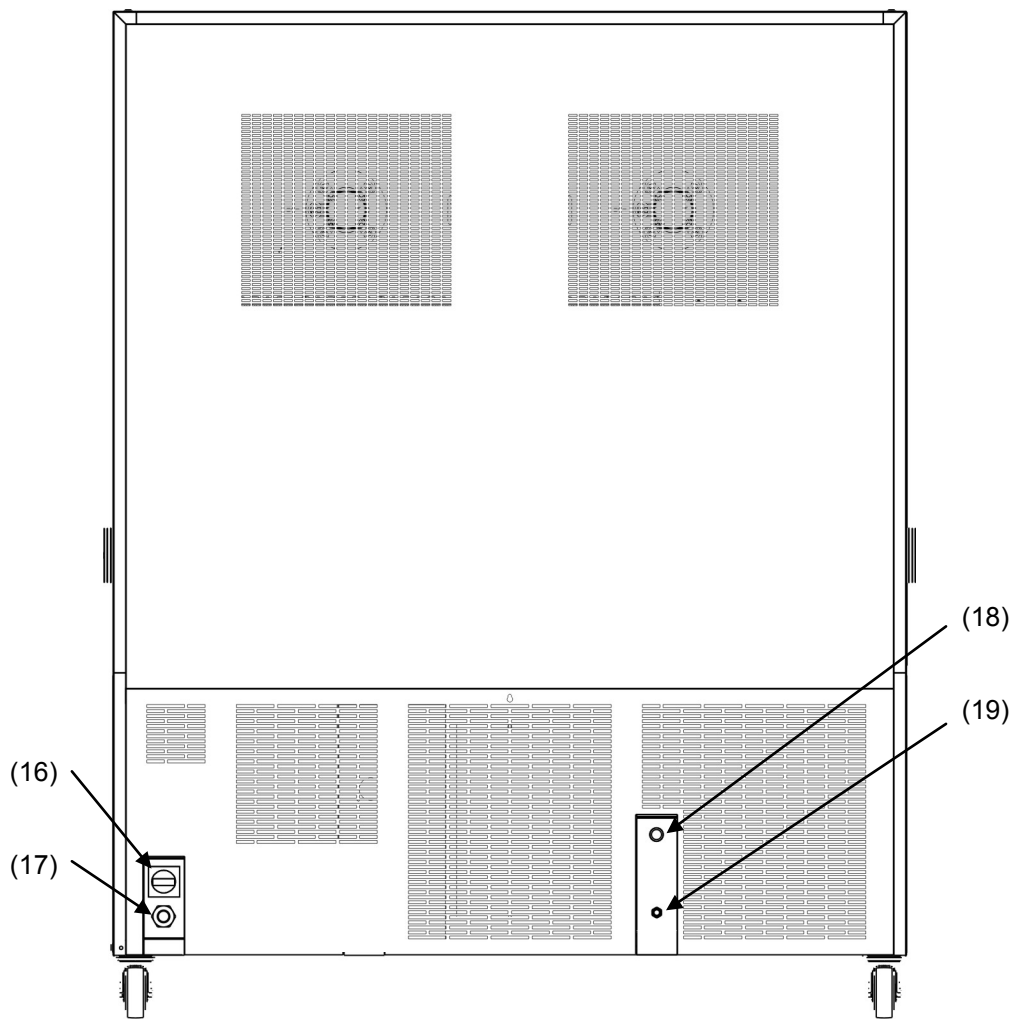

Figure 8: Rear view of the chamber with optional water cooling
- Fasten the cooling hose to the connection “OUT” (18) (Figure 8) on the rear of the chamber (screw thread $\frac{3}{4}$ ”).
- Fasten the cooling water hose to the connection “IN” (19) (Figure 8) on the rear of the chamber (screw thread $\frac{3}{4}$ ”).
- Install the water supply connection using either the enclosed water hose or another pressure-resistant one. To accomplish this, remove the cover of the freshwater connection “IN” (19) (Figure 8) on the rear of the chamber.